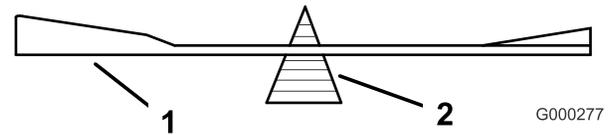

Figure 74
2. Check the balance of the blade by putting it on a blade balancer (Figure 74). If the blade stays in a horizontal position, the blade is balanced and can be used. If the blade is not balanced, file some metal off the end of the sail area only. Repeat this procedure until the blade is balanced.